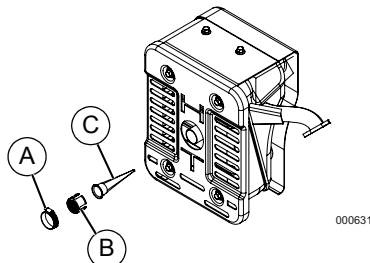

Figure 4-5. Spark Arrestor Screen
1. Loosen clamp (A) and remove screw. See Figure 4-5.
2. Inspect screen (B) and replace if torn, perforated or otherwise damaged. If screen is not damaged, clean with commercial solvent.
3. Replace spark arrestor cone (C) and screen (B). Secure with clamp (A) and screw.